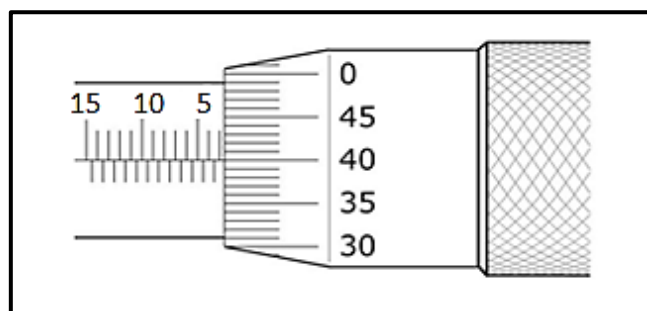

FIGURE 7.7
- 7.7 Determine the reading of the depth micrometer in FIGURE 7.7 below.